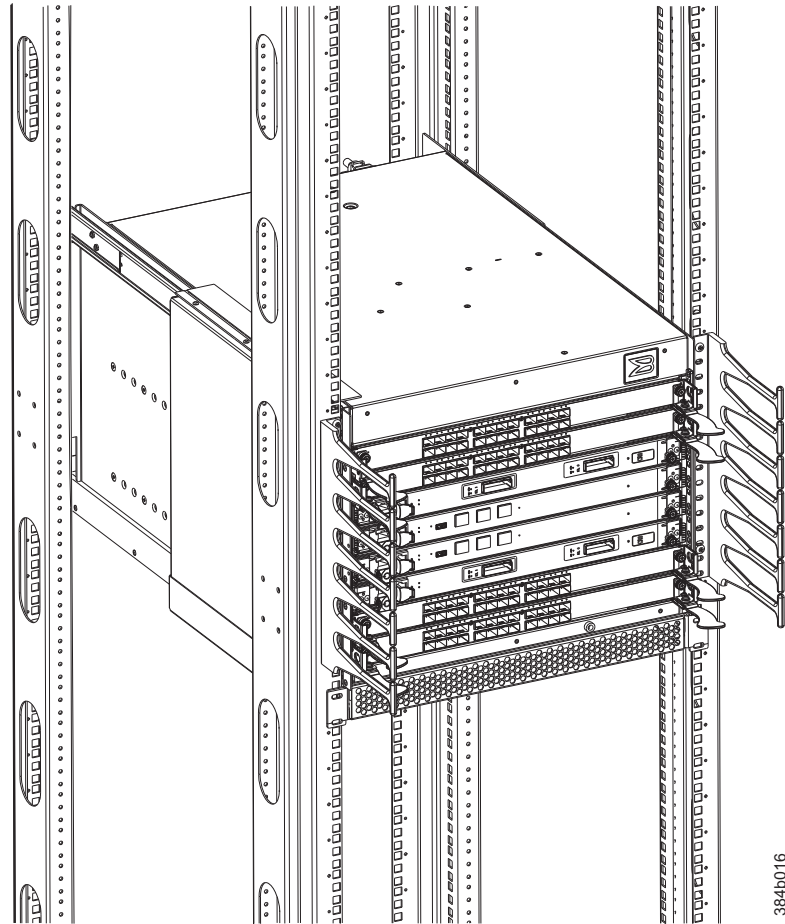

Figure 34. Cable management finger assemblies
3. Unscrew and save the two screws that attach the cable management assembly to the rack upright (see Figure 34 on page 65). Support the assembly to prevent it from falling.